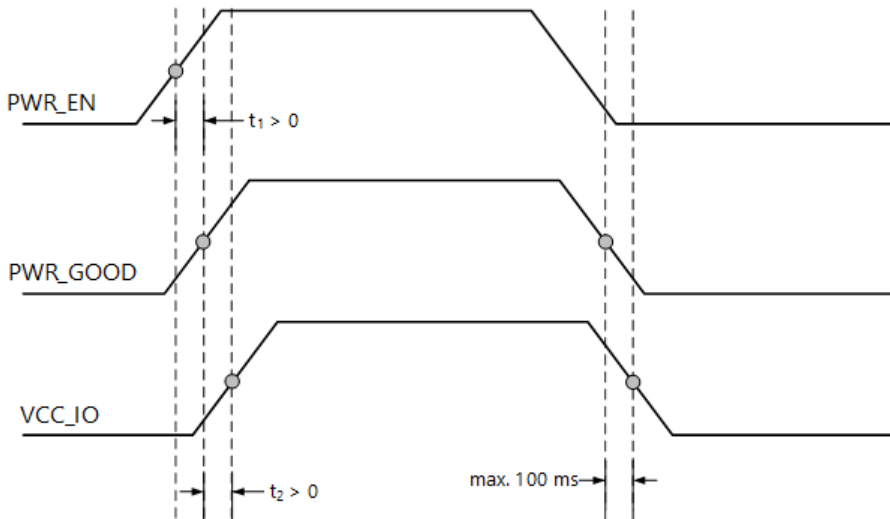

Figure 10: Power-Up Sequence - VCC_IO in Relation with PWR_GOOD and PWR_EN Signals
Figure 10 illustrates the requirements of the V_IO power sequence. Do not power the V_IO pins when PWR_GOOD and PWR_EN signals are not active. If the module is not powered, make sure that the V_IO voltages are disabled, for example, by using a switch that uses PWR_GOOD as enable signal on the base board.
- Follow the power sequence diagram shown in Figure 10. This ensures that the I/Os are tri-stated at power-on and power-off.